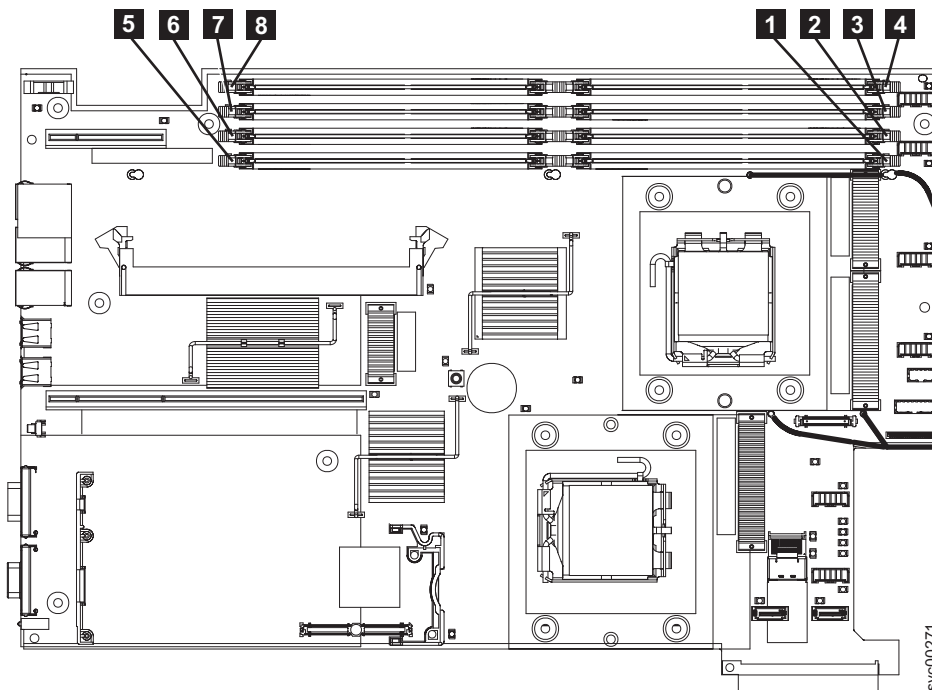

Figure 97. Locating the SAN Volume Controller 2145-8G4 memory modules
- The original version (Rev 1) uses eight 1 GB memory modules in slots **1** through **8**, which are shown in Figure 97.